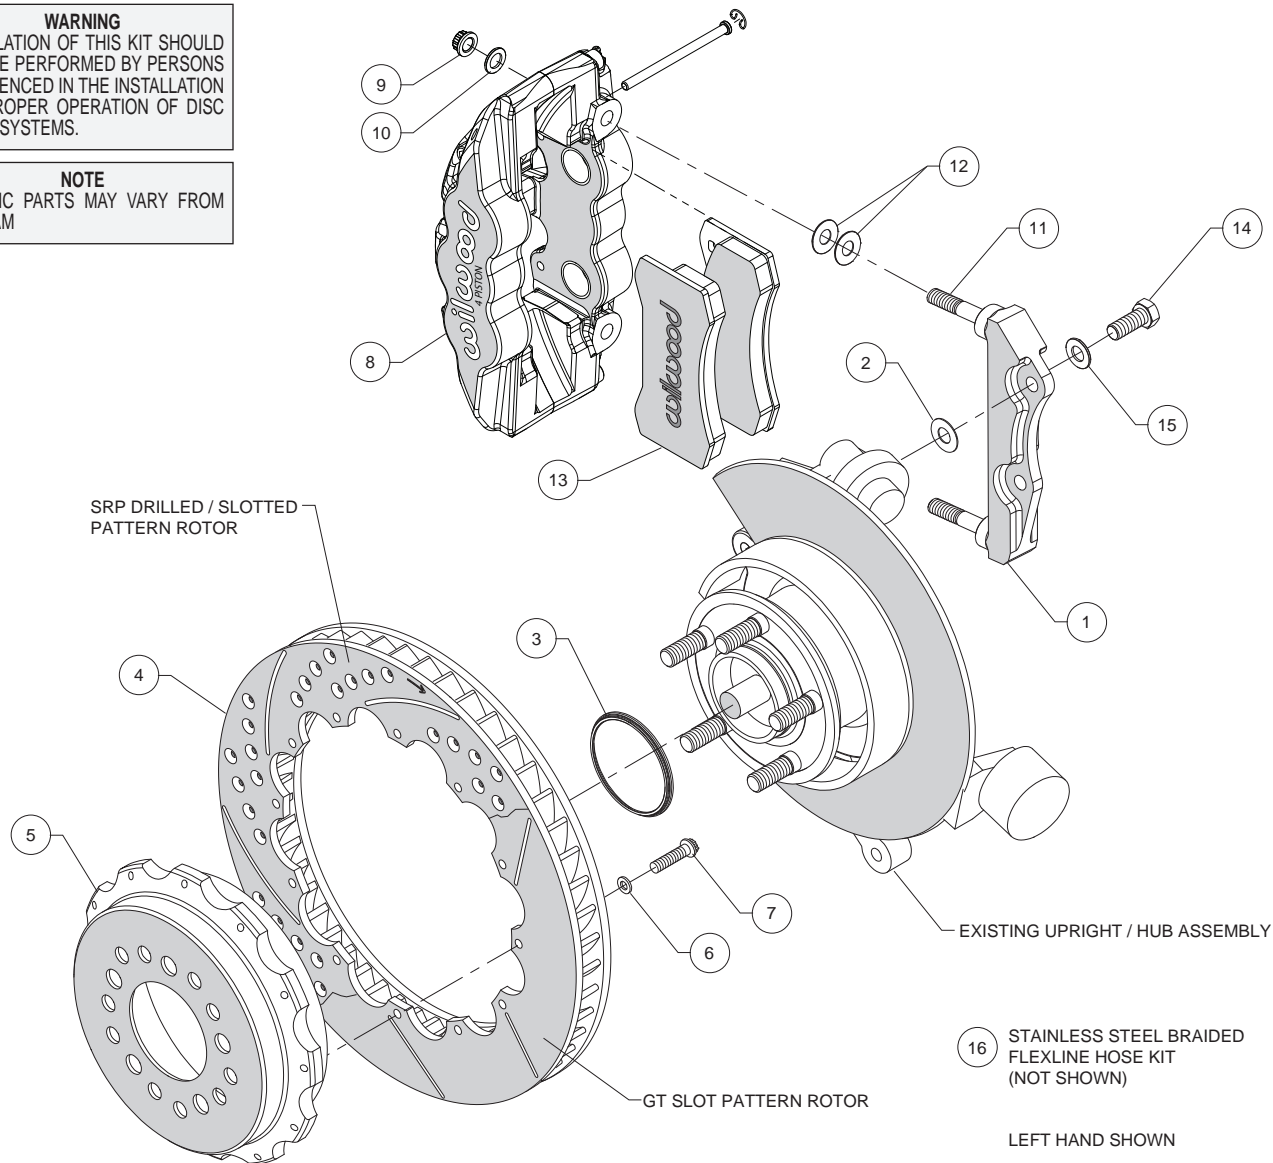
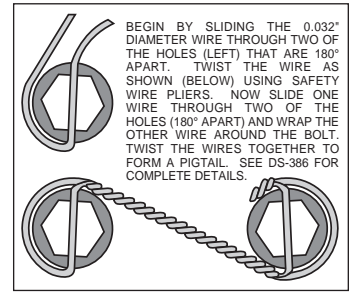

Figure 1. Typical Installation Configuration
Figure 3. Safety Wire Diagram
Assembly Instructions (numbers in parenthesis refer to the parts list and Figure 1 on the preceding pages):
- The caliper mount bracket (1) should initially be installed with clean, dry threads on the mounting bolts. Orient the bracket as shown in Figure 1 and install using bolts (14) and washers (15), Figure 1. Initially place one .033" thick shim (2) on each bolt between the bracket and upright, Figure 1. Temporarily tighten the mounting bolts. **NOTE:** *The bracket must fit squarely against the mount bosses on the upright.* Inspect for interference from casting irregularities, machining ridges, burrs, etc. Later, after the caliper alignment has been checked, the mount bolts will be secured using red *Loctite*® 271.
- Orient the rotor (4) and the hat (5) as shown in Figure 1 and Photo 1. Attach rotor to hat using bolts (7) and washers (6). Using an alternating sequence, apply red *Loctite*® 271 to the threads and torque bolts to 155 **in-lb**. For an added measure of security, the bolts may be safety wired using standard 0.032 inch diameter stainless steel safety wire as shown in Figure 3. Please refer to Wilwood's data sheet DS-386 (available at www.wilwood.com/Pdf/DataSheets/ds386.pdf) for complete safety wire installation instructions.
- Slide the rotor registration adapter (3) onto the axle register on the axle hub with the smaller O.D. facing outward, Photo 2. Slide the hat/rotor assembly onto the axle hub. **NOTE:** *The hat must fit flush against the axle hub flange or excessive rotor run out may result.* Install three lug nuts (finger tight) to keep the hat/rotor assembly in place while continuing with the installation.
- Lubricate the caliper mounting studs (11) with lightweight oil. Initially place two .030" thick shims (12) on each stud between the caliper and the bracket, as shown in Figure 1 and Photo 3. Mount the caliper (8) onto the bracket (1) using lock nuts (9) and washers (10), Figure 1. Temporarily tighten the lock nuts and view the rotor through the top opening of the caliper. The rotor should be centered in the caliper, Photo 4. If not, adjust by adding or subtracting shims (2) between the bracket and the upright. Always use the same amount of shims on each of the two mounting bolts. Once the caliper alignment is correct, remove the bracket mounting bolts one at a time, apply red *Loctite*® 271 to the threads, and torque to 60 ft-lb.
- Remove the two pad retaining pins from the caliper (8) by carefully popping out the pin retaining clips and sliding out the pins. Insert the brake pads (13) into the caliper from the bottom, Figure 1 and Photo 5. With the friction material facing the rotor, secure the brake pads in place with the pad retaining pins and clips, Photo 6. Reinstall the caliper onto the caliper mounting bracket and temporarily tighten the lock nuts. Check that the top of the brake pad is flush with the outside diameter of the rotor, Photo 7. If not, adjust by adding or subtracting shims (12) between the caliper and the bracket. After the caliper pad height is set, torque the caliper lock nuts (12) to 47 ft-lb.